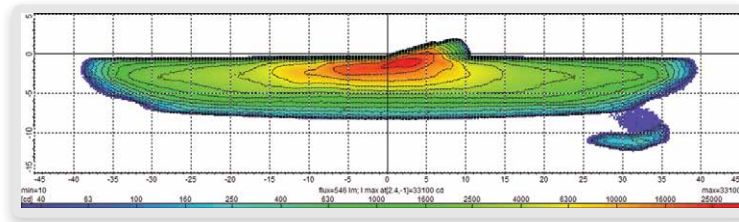

Figure 3. Candela sensor with low beam pattern and scattered light (bottom right) produced by headlamp reflector
Step 2: We start the Monte Carlo Simulation and get the low beam pattern result shown in Figure 3.